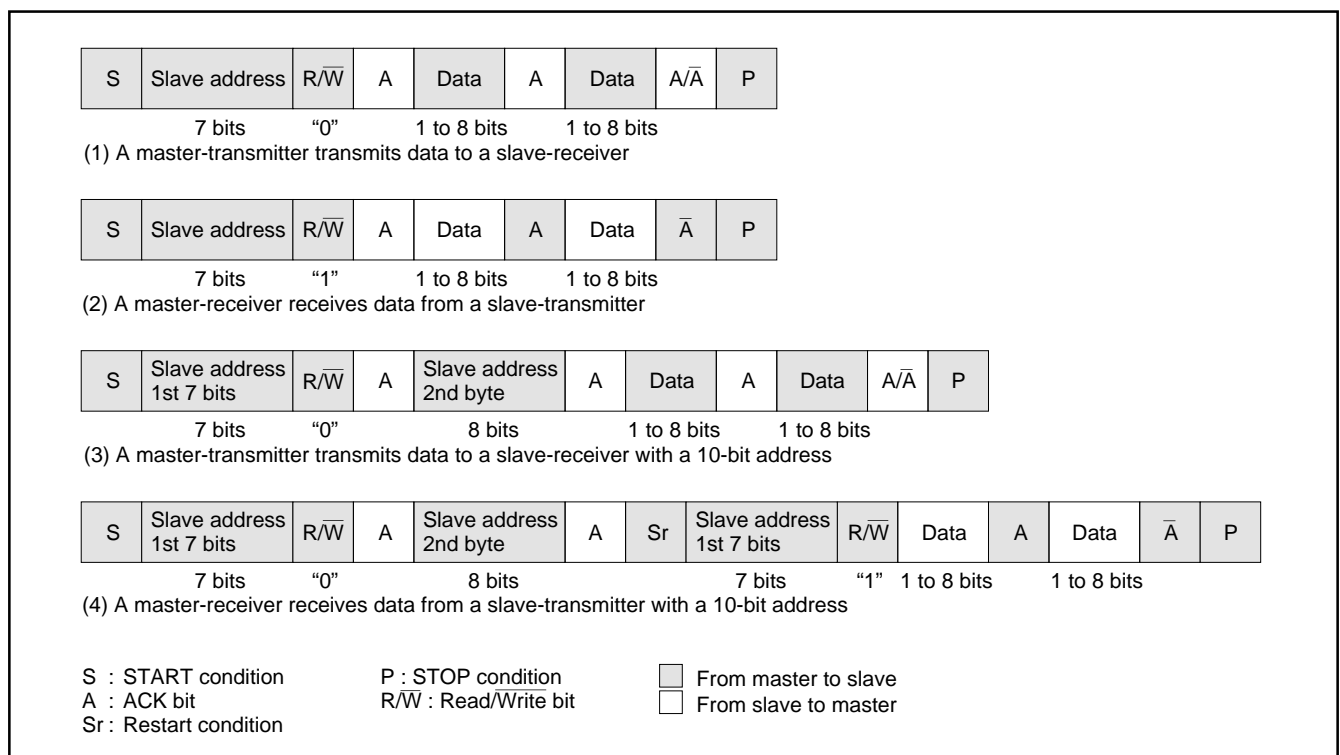

Fig. 49. Address data communication format
To meet the 7-bit addressing format, set the 10BIT SAD bit of the I²C control register (address 00F9₁₆) to "0." The first 7-bit address data transmitted from the master is compared with the high-order 7-bit slave address stored in the I²C address register (address 00F7₁₆). At the time of this comparison, address comparison of the RBW bit of the I²C address register (address 00F7₁₆) is not made. For the data transmission format when the 7-bit addressing format is selected, refer to Figure 49, (1) and (2).
When the first-byte address data matches the slave address, the AAS bit of the I²C status register (address 00F8₁₆) is set to "1." After the second-byte address data is stored into the I²C data shift register (address 00F6₁₆), make an address comparison between the second-byte data and the slave address by software. When the address data of the 2 bytes matches the slave address, set the RBW bit of the I²C address register (address 00F7₁₆) to "1" by software. This processing can match the 7-bit slave address and R/W data, which are received after a RESTART condition is detected, with the value of the I²C address register (address 00F7₁₆). For the data transmission format when the 10-bit addressing format is selected, refer to Figure 49, (3) and (4).
(10) Example of Master Transmission